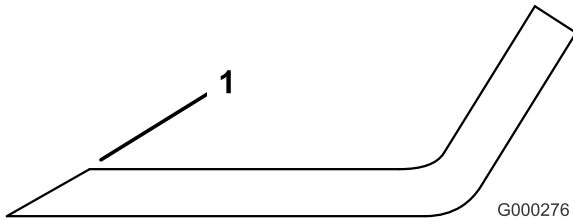

Figure 89
1. Use a file to sharpen the cutting edge at both ends of the blade (Figure 89). Maintain the original angle. The blade retains its balance if the same amount of material is removed from both cutting edges.